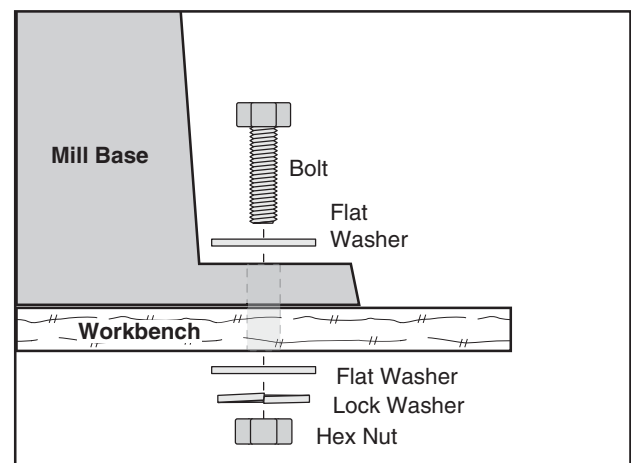

Figure 8. Example of a through mount setup.
5. Bolt the mill/drill to the top of the workbench (**Figure 8**).